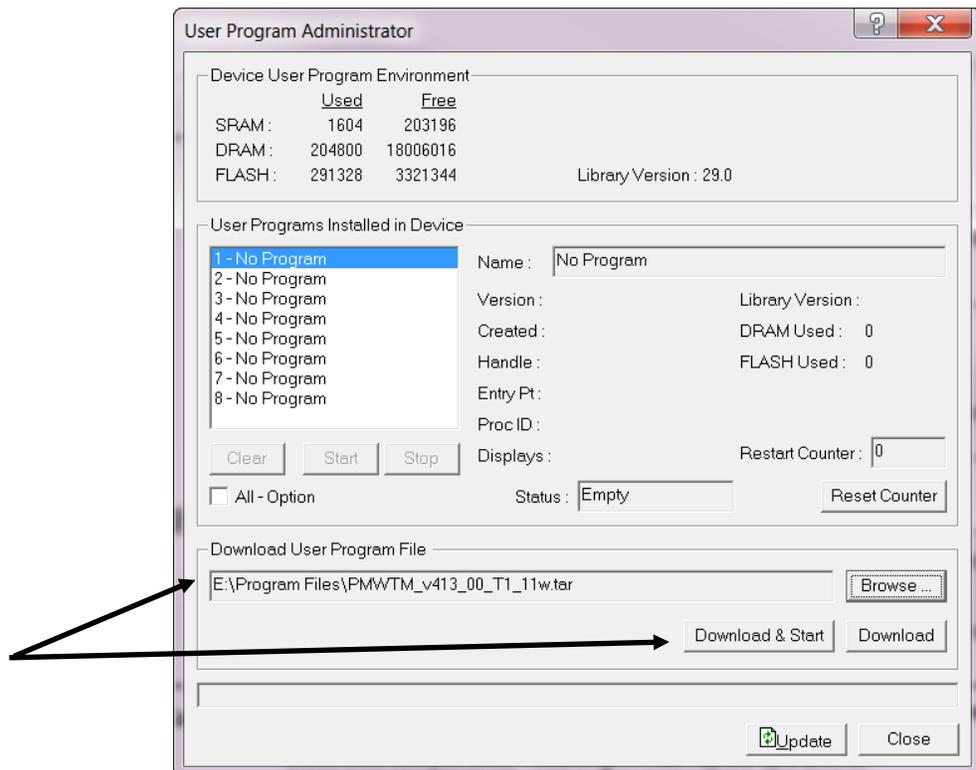

Figure 2-5. User Program Administrator
8. Click **Open** to select the program file. The User Program Administrator screen displays. As shown in Figure 2-5, note that the Download User Program File frame identifies the selected program and that the **Download & Start** button is active: